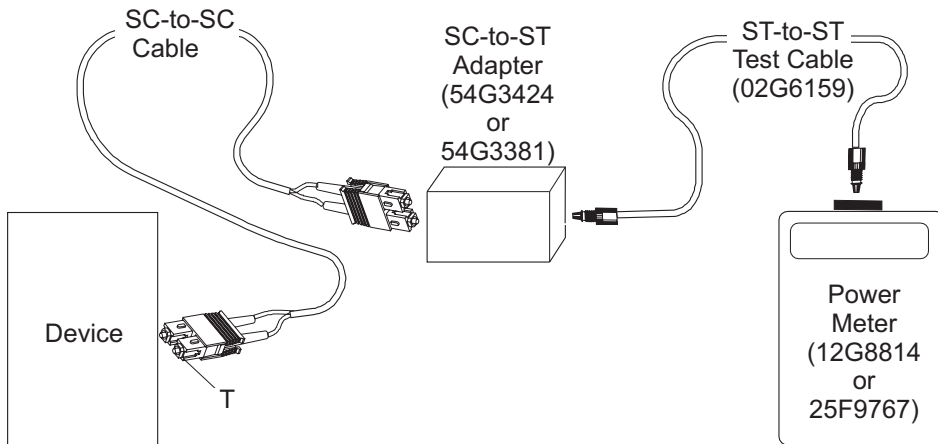

Figure C-8. Measuring Transmit-Out from a Device - ATM, FICON, or Singlemode ESCON
- Figure C-8 on page C-6; ATM, FICON, or singlemode FICON link